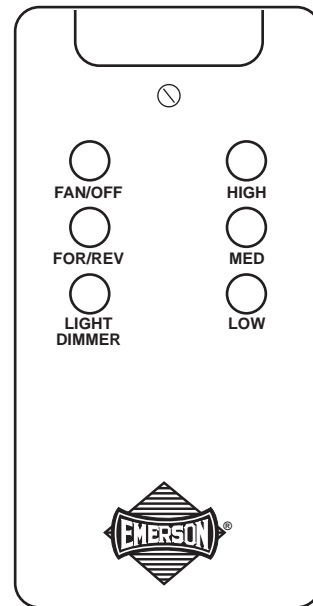

Figure 17
1. To set the desired fan speed, push the HI, MED or LOW buttons to set your fan on high, medium or low speed. (See Figure 17).